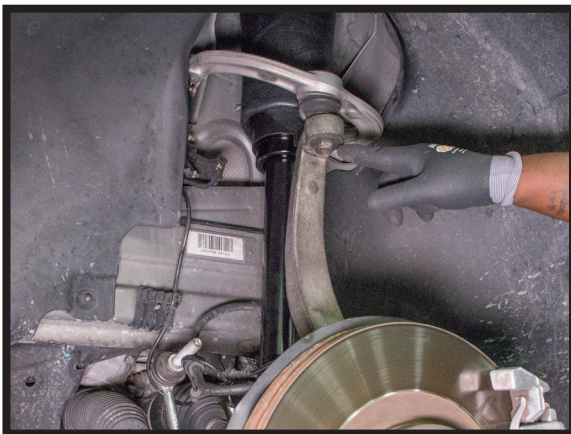

FIGURE 9
3. REATTACH THE SPINDLE ASSEMBLY AND INSTALL THE NUT ONTO THE BALL JOINT, TIGHTEN TO MANUFACTURE'S SPECIFICATION. (FIGURE 9)